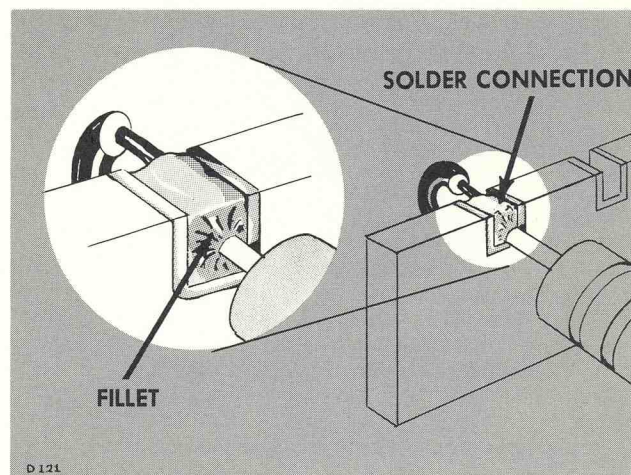
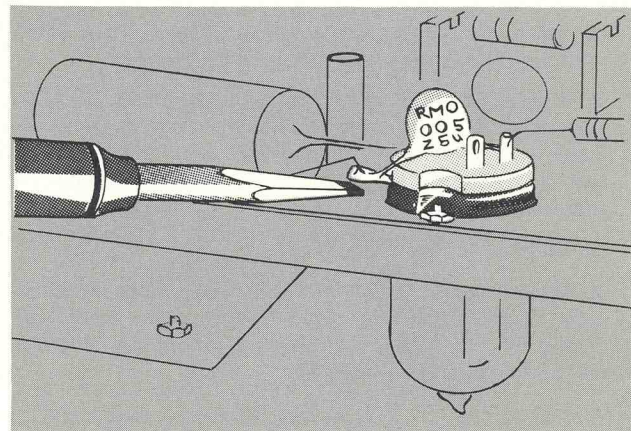

Fig. 4-3. A slight fillet of solder is formed around the wire when heat is applied correctly.
Fig. 4-4. Soldering to a terminal. Note the slight fillet of solder—exaggerated for clarity—formed around the wire.
6. Do not attempt to fill the notch on the strip with solder; instead, apply only enough solder to cover the wires adequately, and to form a slight fillet on the wire as shown in Fig. 4-3.
In soldering to metal terminals (for example, pins on a tube socket) a slightly different technique should be employed. Prepare the iron as outlined above, but tin with ordinary tin-lead solder. Apply the iron to the part to be soldered as shown in Fig. 4-4. Use only enough heat to allow the solder to flow freely along the wire so that a slight fillet will be formed as shown in Fig.4-3.